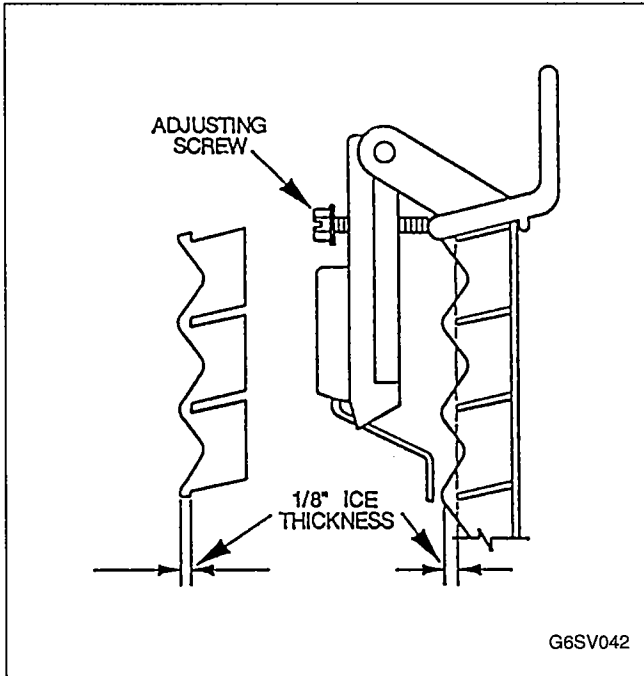

FIGURE 40. ICE THICKNESS CHECK
1. Turn adjustment screw (Figure 40) on ice thickness probe clockwise to increase thickness, counter-clockwise to decrease thickness.